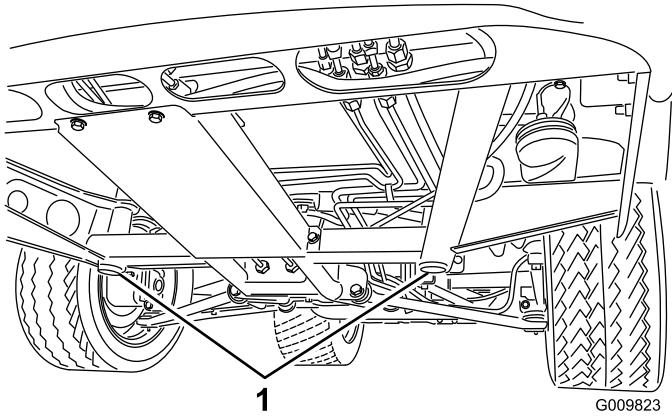
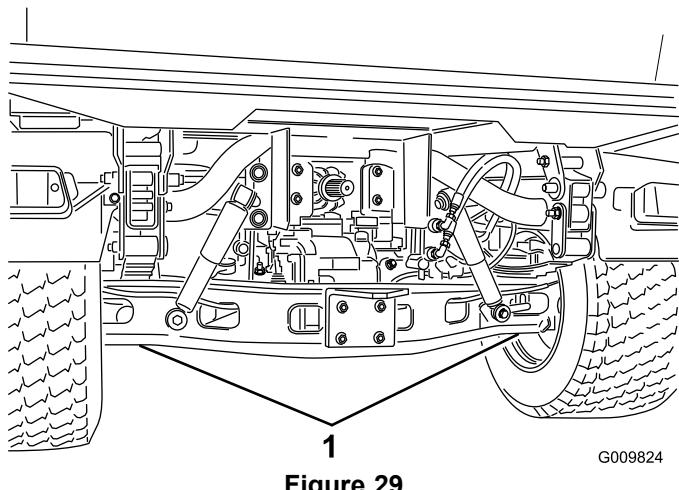

Figure 28
Figure 29
- The jacking point at the front of the vehicle is under the front center frame support (Figure 28) and at the rear it is under the axle (Figure 29).